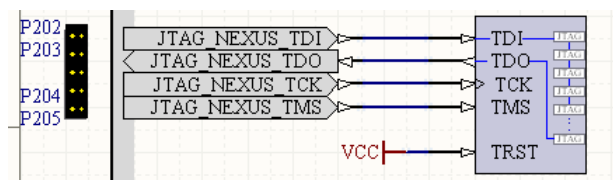

Figure 3. Implementing the soft devices chain within the design
**Note:** In order to communicate with soft devices in a design (processors and/or virtual instruments) you must enable the soft devices JTAG chain within the design. This is done by placing a JTAG Port (NEXUS\_JTAG\_CONNECTOR) and corresponding Soft Nexus-Chain Connector (NEXUS\_JTAG\_PORT) on the top schematic sheet of the design, as shown in Figure 3.